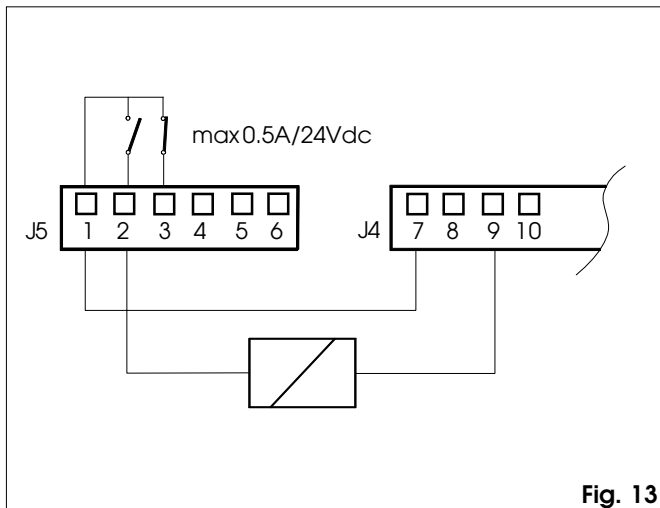

Fig. 13
⑥ J5 TERMINAL BOARD Connection to relay Outputs (figs. 13,14, 15)
- 2 Electric lock - N.O. Contact (max. capacity 0.5 A/24 V) (fig.13).**